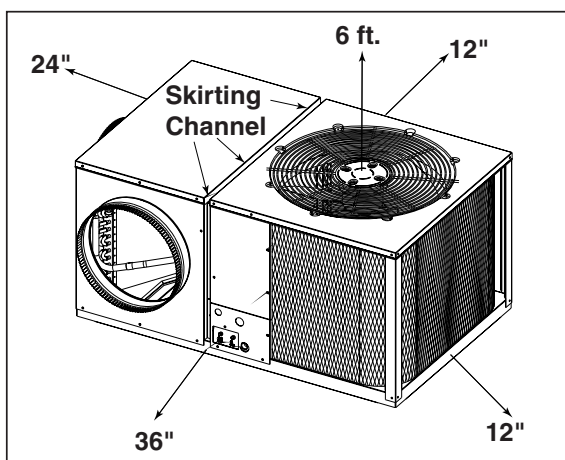

Figure 1. Minimum Unit Clearances
- Create a solid, level position, preferably on a concrete slab or plastic pad (use NORDYNE P/N-903897 or equivalent) and slightly above grade level, located where the skirting channel across top of unit is directly under bottom edge of wall. (See Fig. 1)
- Minimum clearances to obstructions. (See Fig. 1)